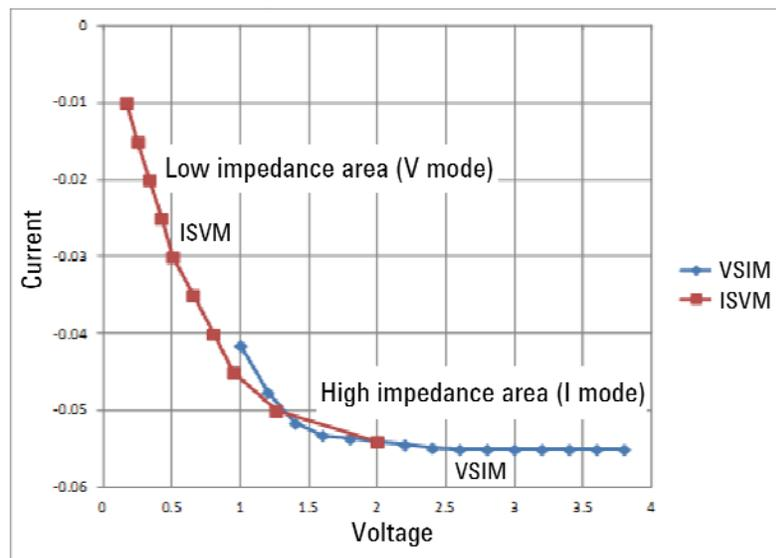

Figure 14 VI emulation result measured by external instruments
- If you confirm the emulation result, use voltage source and current meter (VSIM) for the high impedance area (I mode) of the VI emulation and use current source and volt meter (ISVM) for the low impedance area (V mode). Most suitable instrument should be used for each measurement. Otherwise, the emulation result cannot be monitored correctly. For example, as shown in the VSIM line of Figure 14, the low impedance area cannot be monitored correctly by VSIM. Similarly, the high impedance area cannot be monitored correctly by ISVM.